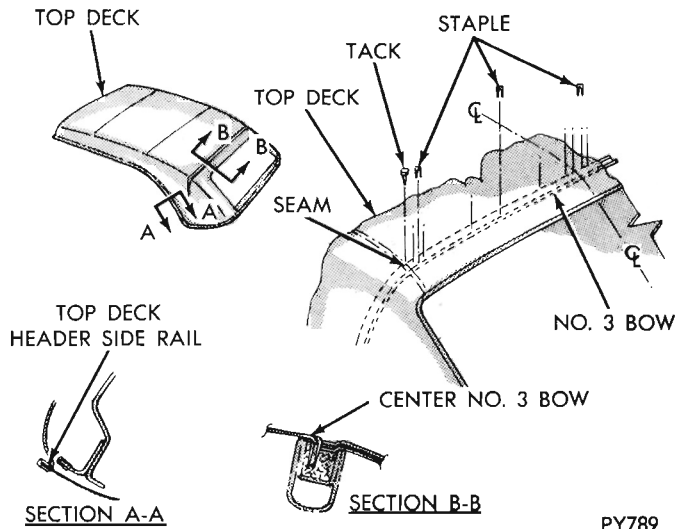

Fig. 18 Top Deck To No. 3 Bow
(8) Assemble rear curtain to Number 3 bow, belt bar retainer and tacking strip.
(9) Assemble rear curtain stay straps to Number 3 bow, belt bar retainer, and tacking strip.
(10) Assemble side tension cable to deck and side quarter assembly pocket.
(11) Assemble tape to rear rail top material retainer. Apply an even coat of adhesive to trim retainer and top fabric. Bond fabric to trim retainer. Assemble retainer to rear rail.
(12) Secure side tension cable at front and rear using screws.
(13) Position and secure top deck and side quarter assembly to Number 3 bow. Assemble side quarters to belt bar tacking strips (Figs. 18 thru 21).
(14) Assemble top deck and side quarter assembly to header and rear side rail trim retainer.
(15) Assemble retainer weatherstrip to header.
(16) Assemble wire on binding to Number 3 bow.
(17) Position top to body. Adjust belt bar retainers as necessary to avoid wrinkles in top material.
(18) Apply an even coat of adhesive along underside of front face well cover and at area where assembly connects to wheelhouse cap. Allow adhesive to dry onto entire area of wheelhouse cap and rear seat back support surfaces, position top well cover and press to bonded surfaces of wheel caps and rear seat back support. Fasten edges of well cover assembly by snap attaching curtain fasteners to studs.